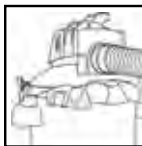

FIGURE 27
48. Your vacuum can be used as a powerful blower. To use your unit as a blower, clear hose of any obstructions. Insert hose end with locking nut into blower port and tighten locking-nut. **FIGURE 27.** Do not over-tighten. Caution should be used when using as a blower